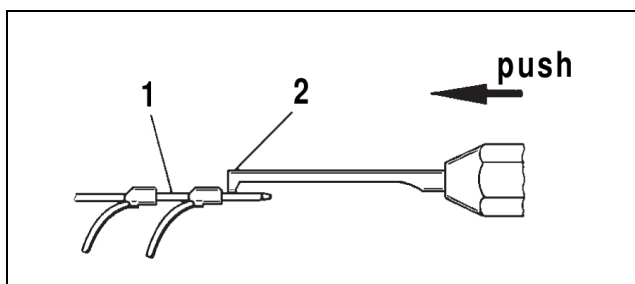

Fig. 37: Clip Positioning Procedure
2. Position flat tip of tool against clip on post (Fig. 37).